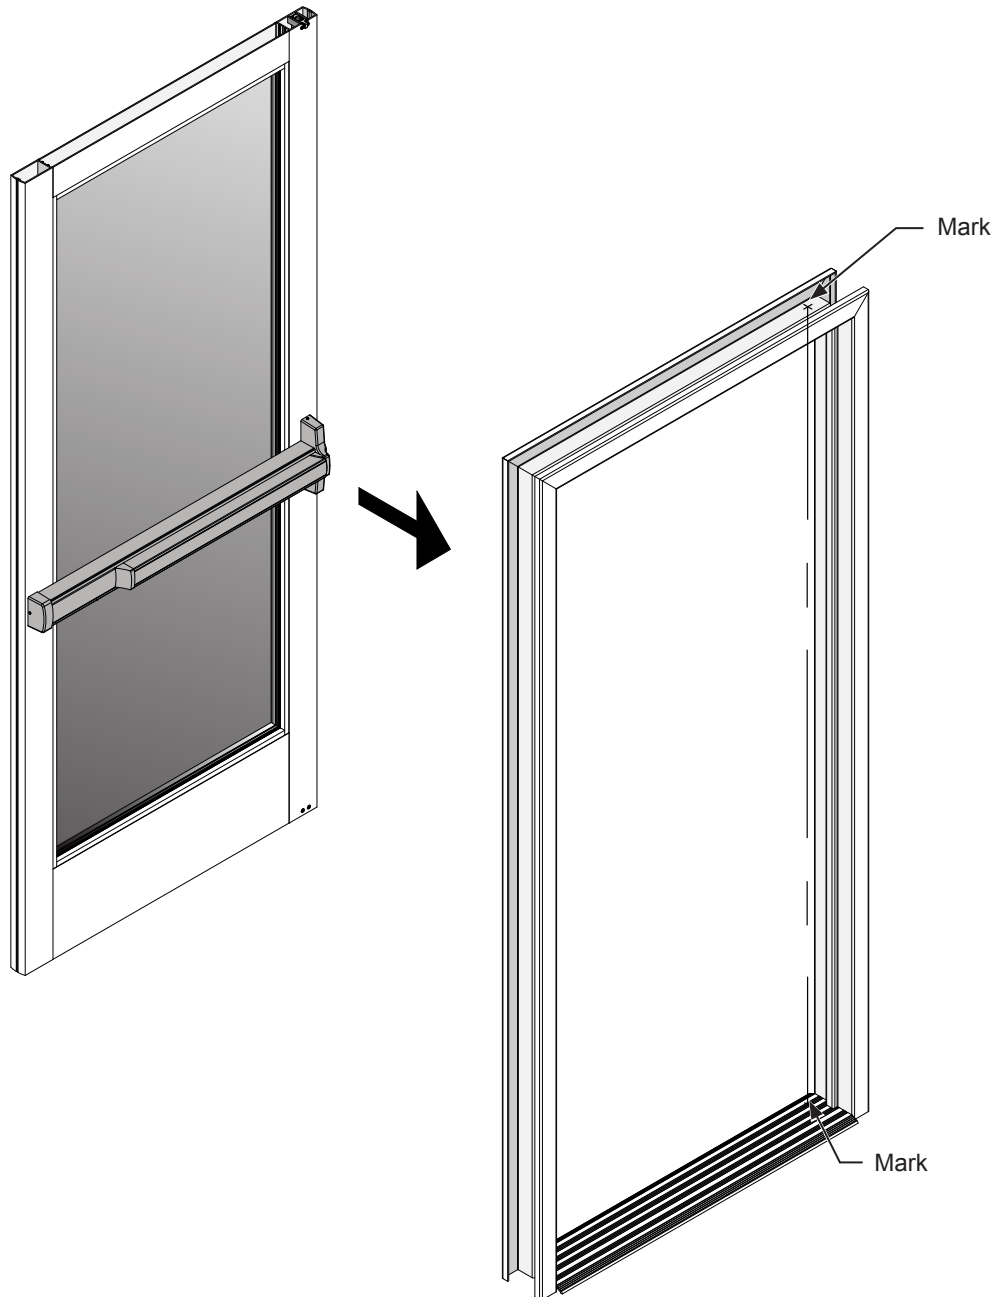

FIG. 17
1. Make sure that the panic exit device is in the dogged position. Both the upper and bottom latches must clear the frame. Re-attach the door to the frame (**Fig. 17**).